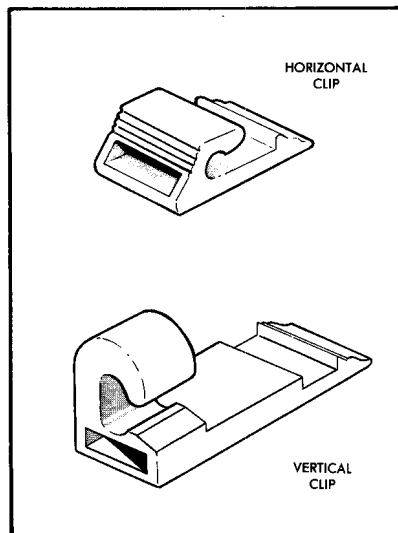

FIGURE 3.
5.03 Station Wiring: Wherever possible, use the plastic, metal siding clip (see Figure 3) for all horizontal and vertical station wire and ground wire runs. This will eliminate the need for metal clamps and screws. Vertical clips should be used at each panel lap joint. Horizontal clips should be placed at 12 to 15 inch intervals. See Figure 4. To install either the horizontal or vertical siding clip, use the following procedures: